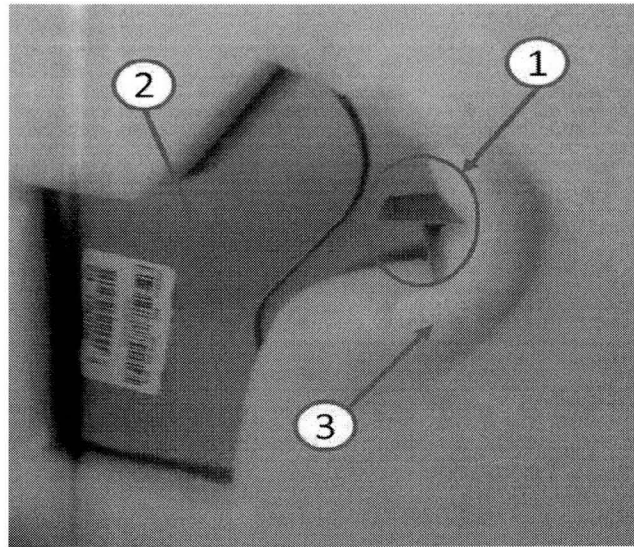

Fig. 2 Standoff Removal
3. Remove the standoff from the back side of each door panel (Fig. 2).